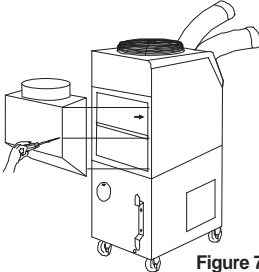

Figure 7
3. Use screws (enclosed inside of box with air adapter) to install the adapter on the air conditioner as shown in Figure 7.